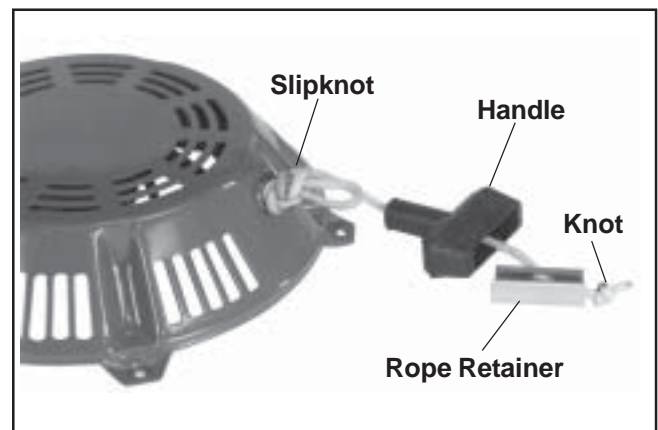

Figure 7-2. Removing Starter Handle.
2. Pull the rope out approximately 12 in. and tie a temporary (slip) knot in it to keep it from retracting into the starter. See Figure 7-2.